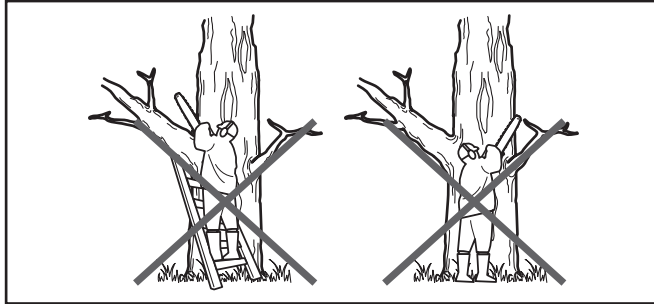

Fig. 19
6. Reset the spiked bumper (5) at a low point when cutting thicker logs by pulling the product slightly backwards until the gripping teeth release, and reposition at lower level to continue sawing. Do not remove the product completely from the wood.
8. Do not operate the product with arms fully extended or attempt to saw areas which are difficult to reach, or on a ladder. Never use the product above shoulder height (Fig. 19).